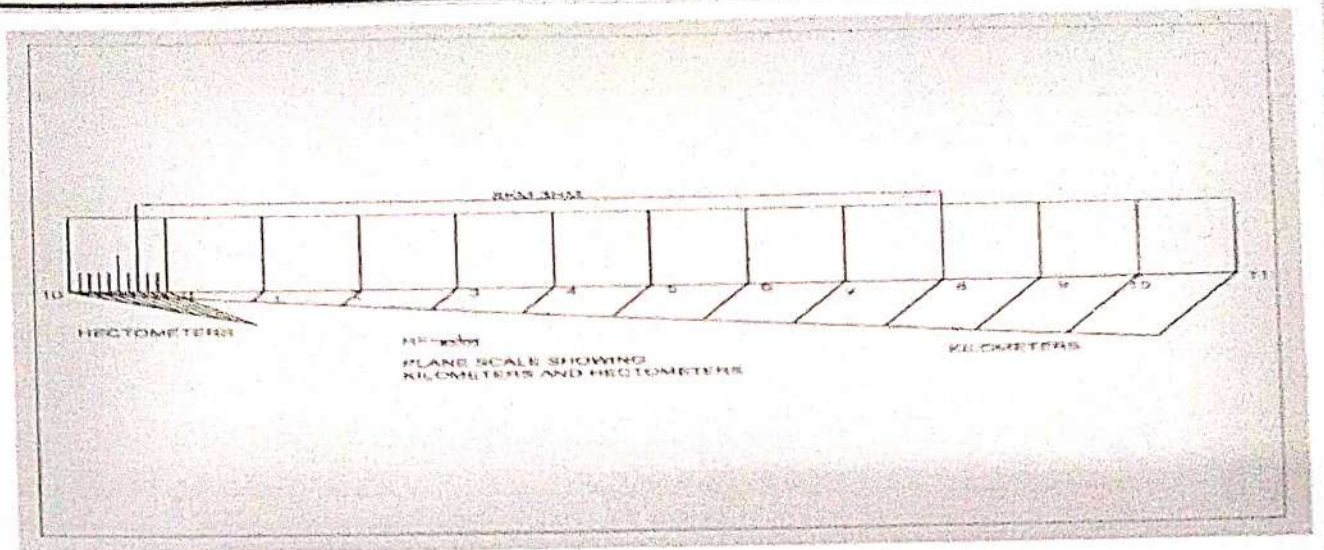

Fig 3.7
- d. Place (0) at the end of first unit. Number the units on right side of Zero and subdivisions on left-hand side of Zero. Take height of scale 5 to 10 mm for getting a look of scale.
- f. Show the distance 8.3 km on it as shown in Fig 3.7.